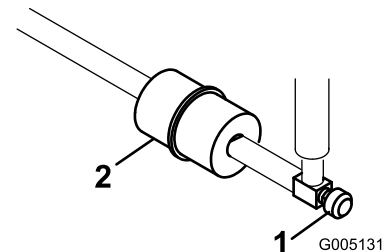

Figure 46
An in-line filter is incorporated into the fuel line between the fuel tank and carburetor (Figure 46). Be sure the arrow on the filter is pointing away from the fuel tank.
1. Close the fuel shut off valve, loosen the hose clamp on the carburetor side of filter, and remove the fuel line from the filter (Figure 46).
2. Place a drain pan under the filter, loosen the remaining hose clamp and remove the filter (Figure 46).